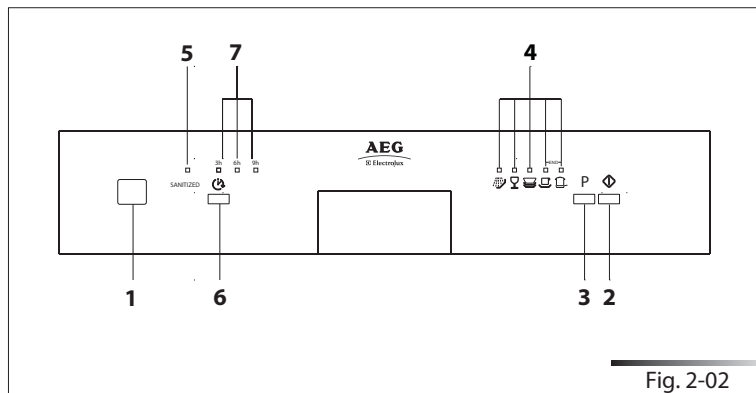

Fig. 2-02
The dishwasher is equipped with a control panel (see fig. 2-02) which is used to program the appliance and switch it on and off.
Press **on/off** (ref. 1 fig. 2-02) to start the dishwasher; the indicator lights show the "status" of the dishwasher.
*Programming operations can only be performed with the **door closed**. With the door open, the **program** indicator lights (ref. 4 fig. 2-02) remain off.*
- Press the program **selection button** (ref. 3 fig. 2-02) several times until the indicator light corresponding to the required program turns on (ref. 4 fig. 2-02);
- to start the dishwasher, press the **start/pause** button (ref. 2 fig. 2-02) for a few seconds until the indicator light of the selected program starts flashing (confirmation beep);
*If you open the door while the appliance is working, you must close it and start the program again by pressing **start/pause** (ref. 2 fig. 2-02). The program will resume from where it was interrupted.*
- press the **start/pause** button (ref. 2 fig. 2-02); the indicator light of the current program remains on (confirmation beep); at this point, start the cycle by pressing **start/pause** (ref. 2 fig. 2-02), or change or cancel the program.
To cancel the program press **start/pause** (ref. 2 fig. 2-02) until it stops (indicator light on and beep). Press **start/pause** (ref. 2 fig. 2-02) once again and hold it down until the indicator lights of programs four and five (ref. pr. 4, pr. 5 fig. 2-03, marked "end") light up.
Select the delay by pressing the program delay button (ref. 6 fig. 2-02) in sequence, depending on the delay you wish to set; the corresponding indicator light will shine (ref. 7 fig. 2-02).
The dishwasher will perform a pre-wash cycle, after which the preset "**program delay**" will commence (the indicator light (ref. 7 fig. 2-02) corresponding to the time remaining before the program starts and the indicator light (ref. 4 fig. 2-02) indicating the set program, **start flashing**).
- press the **start/pause** button (ref. 2 fig. 2-02) for a few seconds until the **program delay** indicator light (ref. 6 fig. 2-02) and the set program indicator light (ref. 4 fig. 2-02) stop flashing and remain lit; press the **delay program** button (ref. 6 fig. 2-02) to modify or cancel the set delay (indicator lights 3, 5, 8 fig. 2-02 off);
- press the **start/pause** button (ref. 2 fig. 2-02) to start the program. If a delay is set, the **program delay** indicator light (ref. 7 fig. 2-02) and the set program indicator light (ref. 4 fig. 2-02) begin flashing; if the program delay is cancelled, only the program indicator light (ref. 4 fig. 2-02) flashes to show that it has started.
- press **start/pause** (ref. 2 fig. 2-02) and hold it down for a few seconds until the indicator lights of programs four and five (ref. pr. 4, pr. 5 fig. 2-03, marked "end") light up;
- press the **start/pause** button (ref. 2 fig. 2-02) to start the program.
- press the **start/pause** button (ref. 2 fig. 2-02) to start the program. The dishwasher will drain and continue with the required delay and the new program.
Press the **on/off** button (ref. 1 fig. 2-02) to switch off the dishwasher.